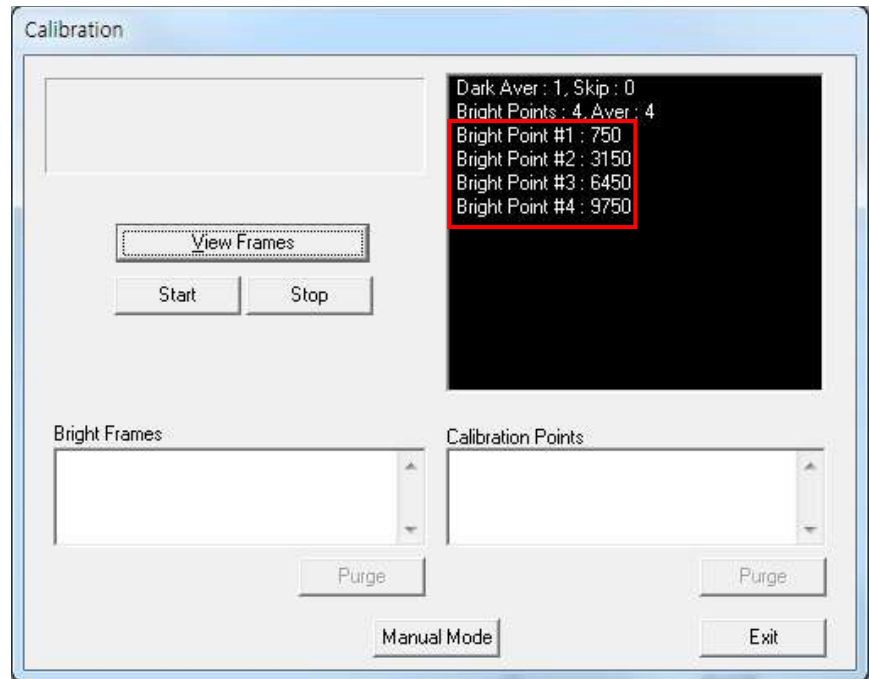

Figure 4: Bright median value
- D. When 'Bright acquiring bright frame' is shown, Exposure X-ray to create Bright points as RED box on 'Figure 4'